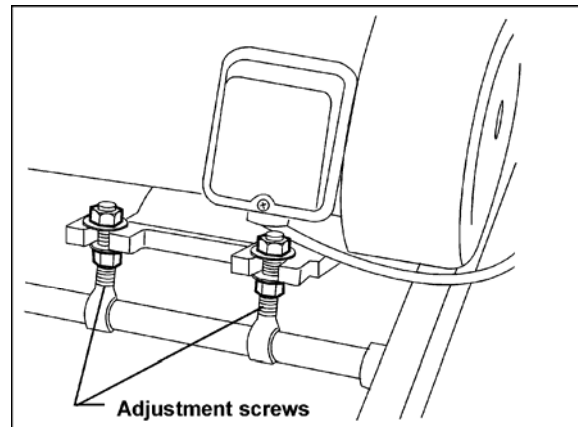

Figure 12
2. Loosen the bottom nuts on the motor adjustment screws (Figure 12) with a 19mm wrench.
5. Tighten the bottom nuts (Figure 12).